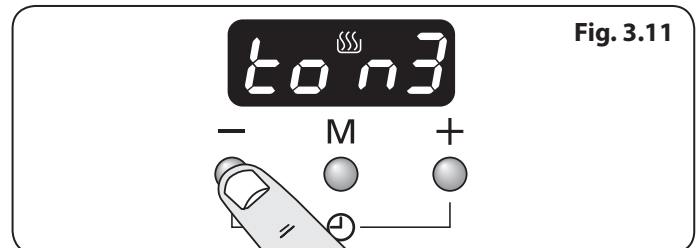

Fig. 3.11
2. To select the tone press the [-] button until desired tone is reached (Fig. 3.11).